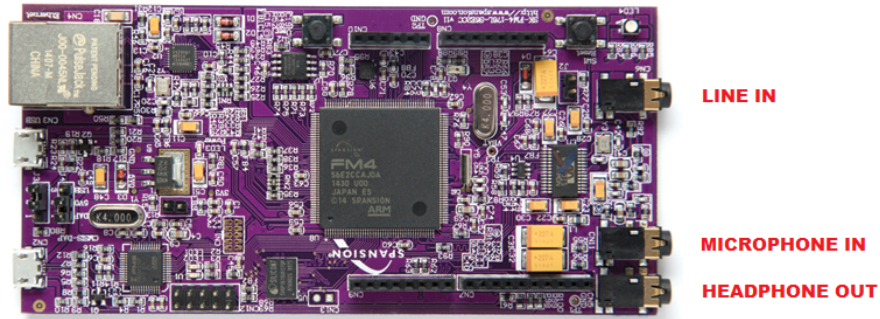

Figure 8: Audio connections on Cypress FM4 board.
5. Plug headphones and a microphone into the corresponding sockets on the FM4 board, as shown in Figure 8.